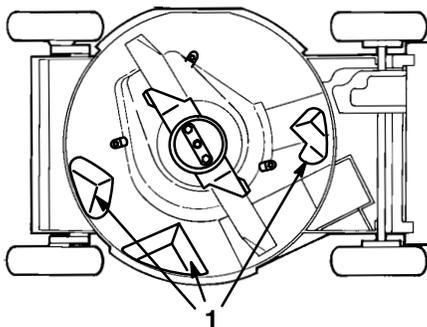

Figure 28
Keep underside of mower housing clean. Be especially careful to keep kickers free of debris (Fig. 28).
3. Tip mower on its right side (Fig. 28).